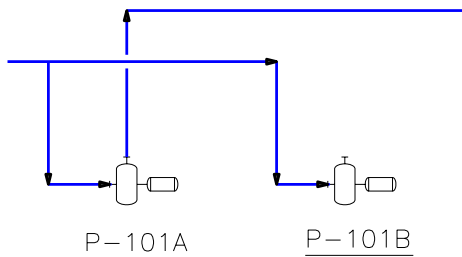

Figure 2-47 Line connecting the vertical nozzle of the pump
6. Specify the start point on the vertical nozzle of the pump tagged **P-101A**, and then create a line, as shown in Figure 2-47.